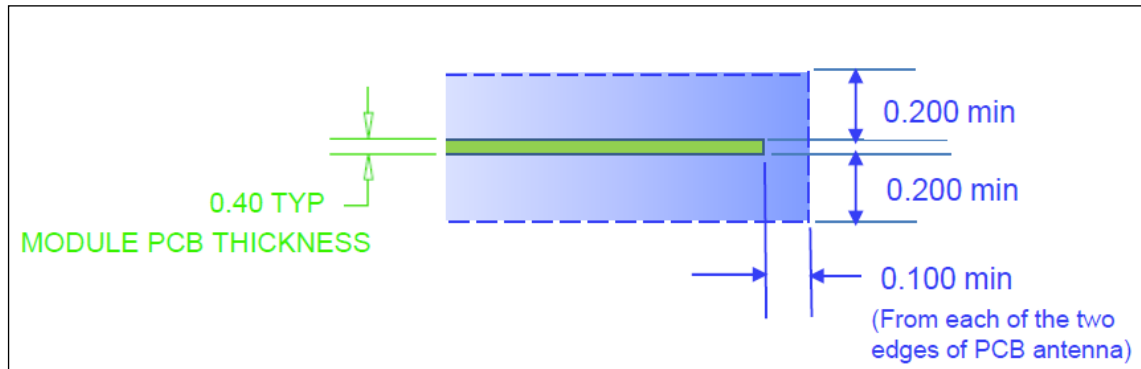

Figure 6-4: Recommended clearance above and below the PCB trace antenna
- The PCB antenna keep out area, as shown in Figure 6-3, must be adhered to. In addition it is recommended to have clearance above and below the PCB trace antenna (Figure 6-4) for optimal range performance.
- Recommendation is to keep plastic enclosure clearance of 1cm from top and bottom of the GS1011MxxS PCB antenna keep-out area, if possible. 5-mm (0.2 in) clearance shall be the minimum as shown in Figure 6-4.